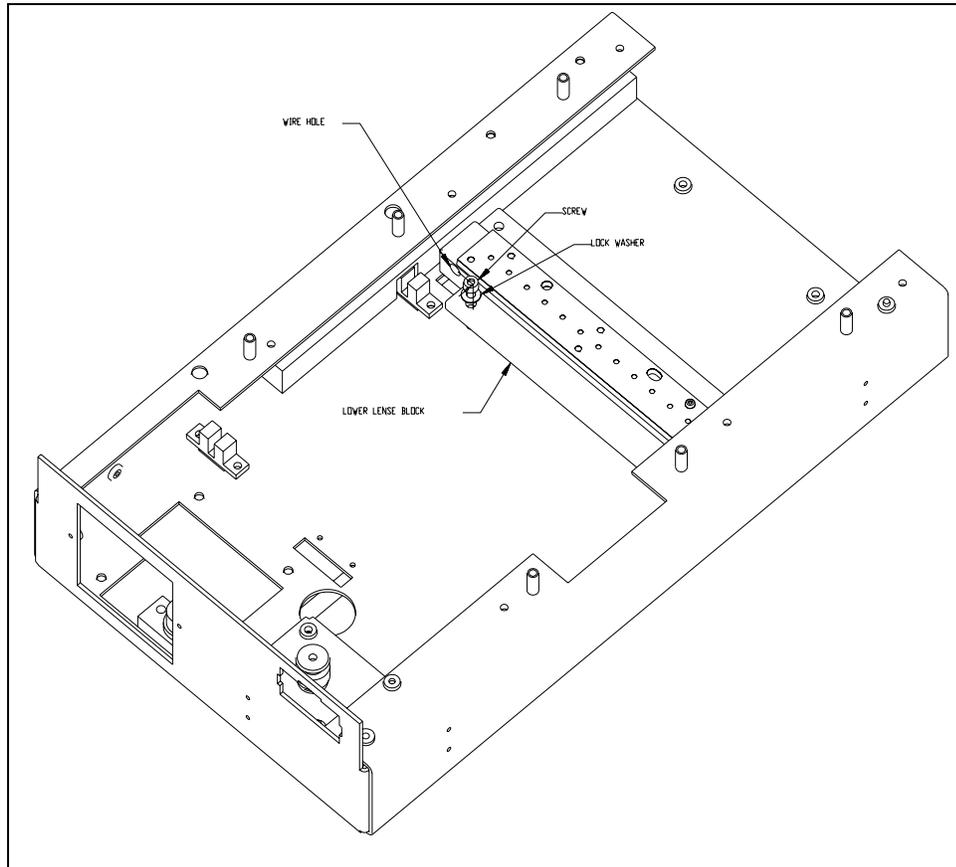

Figure 11-39 Removing Lower Optic Block
- 2 Remove the lower optic block by unscrewing the 4-M3 x 6mm socket head screws and M3 lock washers (Figure 11-39).